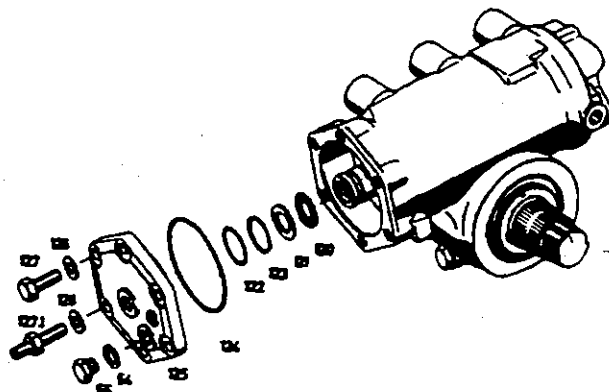

Fig.34
Place washer (121), which was removed during disassembly, in the recess in cylinder cover (125) with the bevelled side first; needle cage (120) must be fitted without grease (Fig.34).